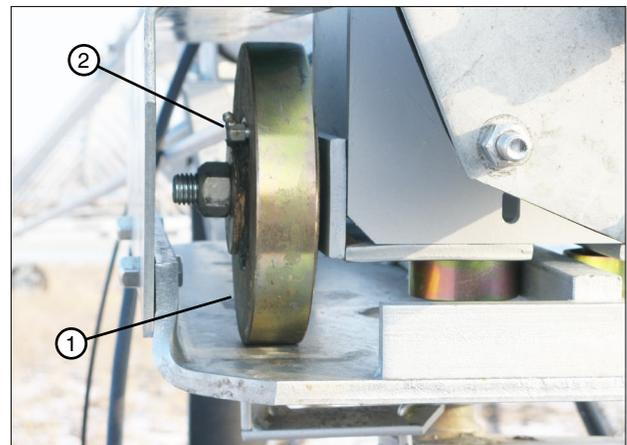

Figure 45-2 1. Track Roller
3. Lubricate the grease fitting on each track roller. See figure 45-2.